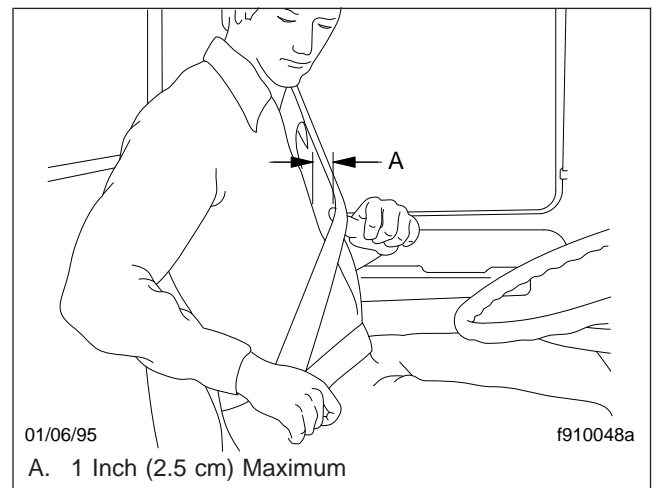
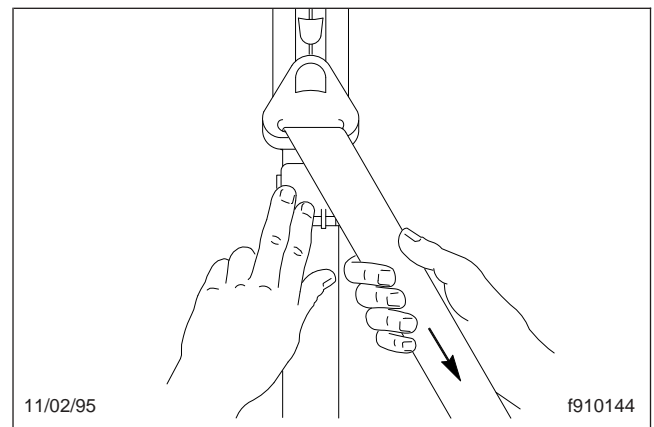

Fig. 5.20, Adjusting Shoulder Harness Clearance, Komfort Latch
Fig. 5.21, Locking the Komfort Latch
*If equipped with a Komfort Latch, pull on the shoulder strap to lessen the pressure of the strap on your shoulder and chest. Allow no more than 1 inch (2.5 cm) of slack between your chest and the shoulder harness. More slack can significantly reduce the seat belt effectiveness in an accident or a sudden stop. While holding the belt slack, press the Komfort Latch lever up, clamping the seat belt webbing (**Fig. 5.20** and **Fig. 5.21**).*